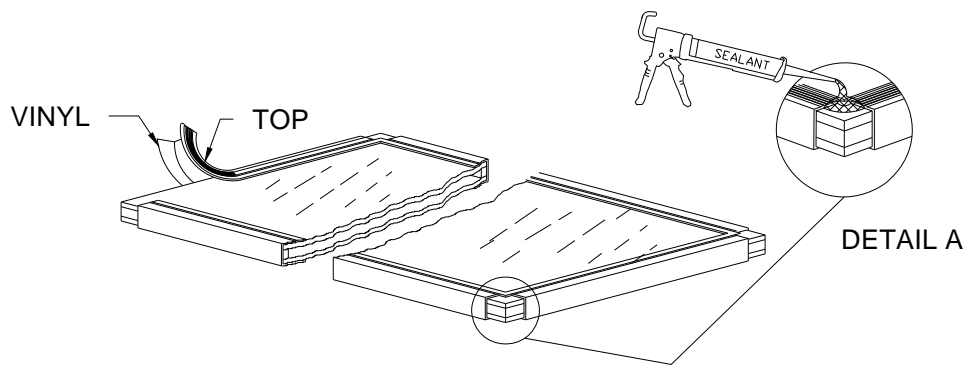

Figure 1:
2. Cut glazing vinyl at corners as shown in Figure 1, Detail A.
5. Apply a bead of sealant that is compatible with the insulated glass seal to all four exterior corners as shown in Figure 1, Detail A.